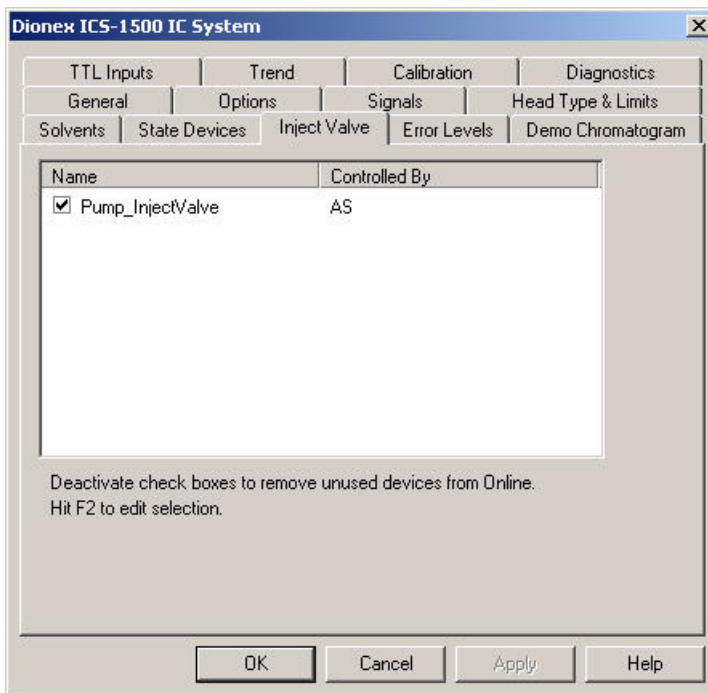

Figure B-42. ICS-1500 Inject Valve Server Configuration Properties
- d. Verify that the **Pump_InjectValve** check box is selected and that **AS** is listed in the **Controlled By** column (see Figure B-42).